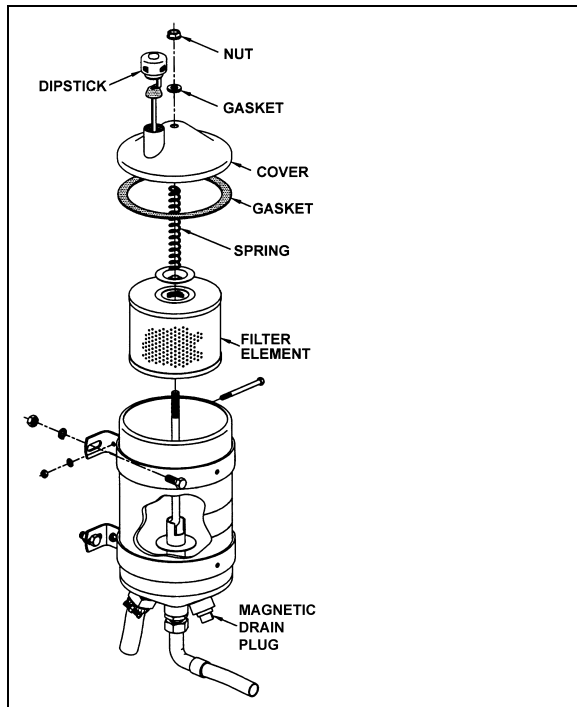

FIGURE 18: POWER STEERING FLUID RESERVOIR 14018
3. Insert dipstick in reservoir. Remove it again to check fluid level (Fig. 18).